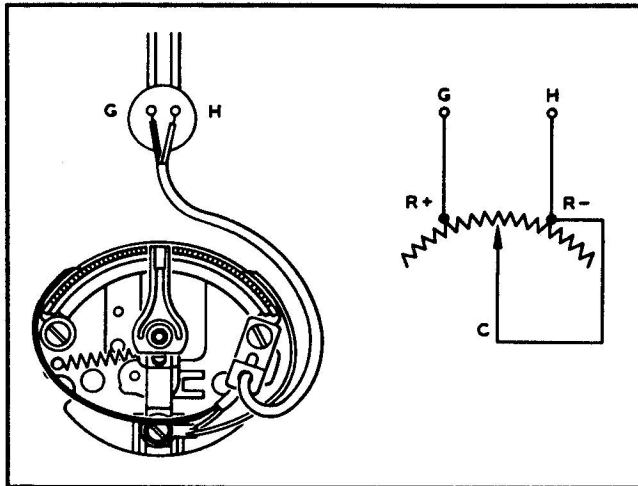

Figure 4-284. Internal Wiring Diagram for Tank Unit EA1062A-997A
Item 20. Install wire holder under screw (22) when installing potentiometer (21). Position of wire holder is shown in figures 4-284 and 4-285.
Connect wires according to wiring diagram, figure 4-284 or 4-285. Cover the two leads to cover with a 5½ in. piece of insulation tubing and run tubing thru both holes in wire holder (20) and wire holder in connection assembly (18).